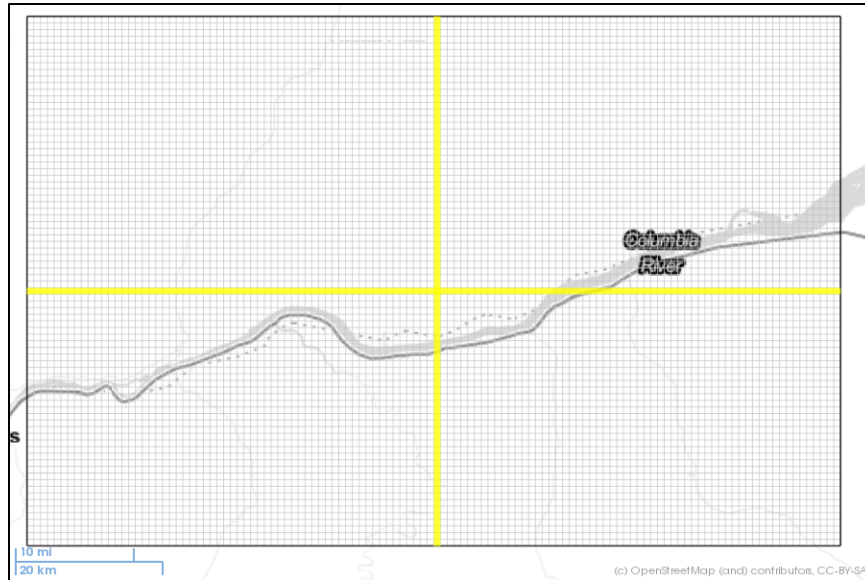

Figure 14. The Grid Editor with the grid cursor
1. To start the Grid Editor, select *Discretization > Grid*. Figure 14 shows the Grid Editor with the grid cursor highlights the entire row and column at the cell location. You may use the Pan tool (Section 3.6.1) and Zoom tool (Section 3.6.2) to interact with the map, to move the grid cursor and/or the model grid.